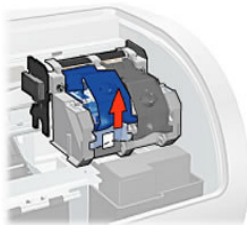

Fig. 7
3. Lift the print cartridge latch to the open position (Fig. 7)